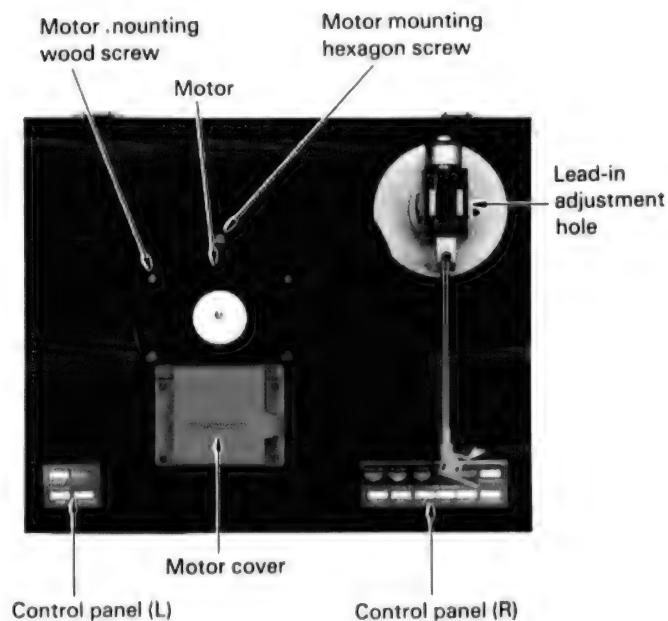

Fig. 26
■ Removal of tonearm section (Figs. 26 and 27)
■ **Removal of control panel section (Figs. 26 and 29)**
■ **Removal of LEDs on control panel section (Figs. 26 and 29)**